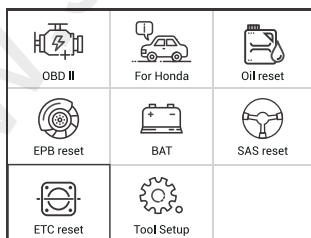

Figure 1
(1) Select the [ETC Reset] shortcut menu directly from the main interface. (Figure 1)